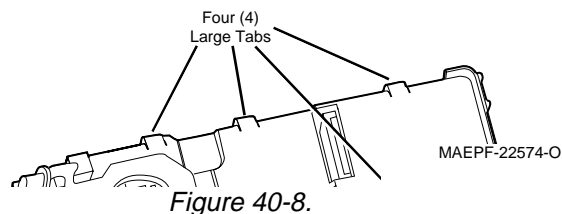

Figure 40-8.
9. As a unit, separate the control top, the front shield, and the controls flex from the chassis and circuit boards (see Figure 40-8).